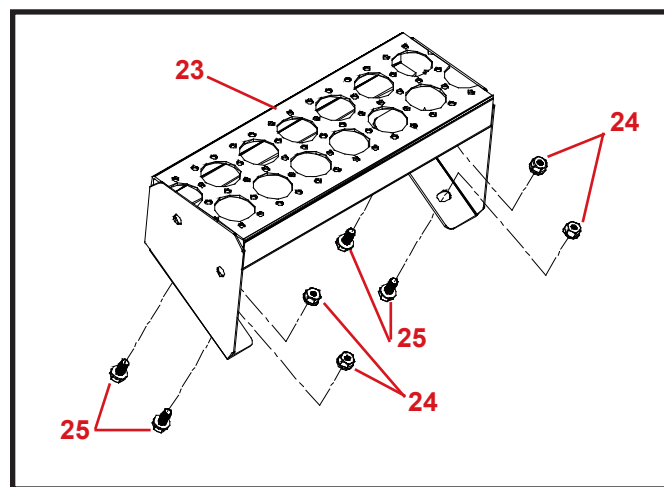

Figure 9
Fasten the step to the rear extension panel using the (4) 5/16" x 3/4" flange bolts and (4) 5/16" flange nuts. See figure 9.